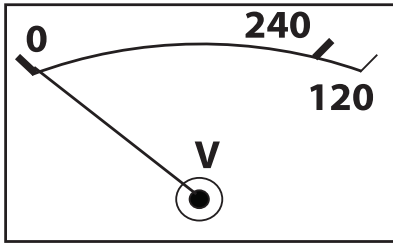

Figure 54. AC Voltmeter (Zero Volts)
7. Verify that the AC voltmeter (Figure 54) on the welder-generator reads zero volts.